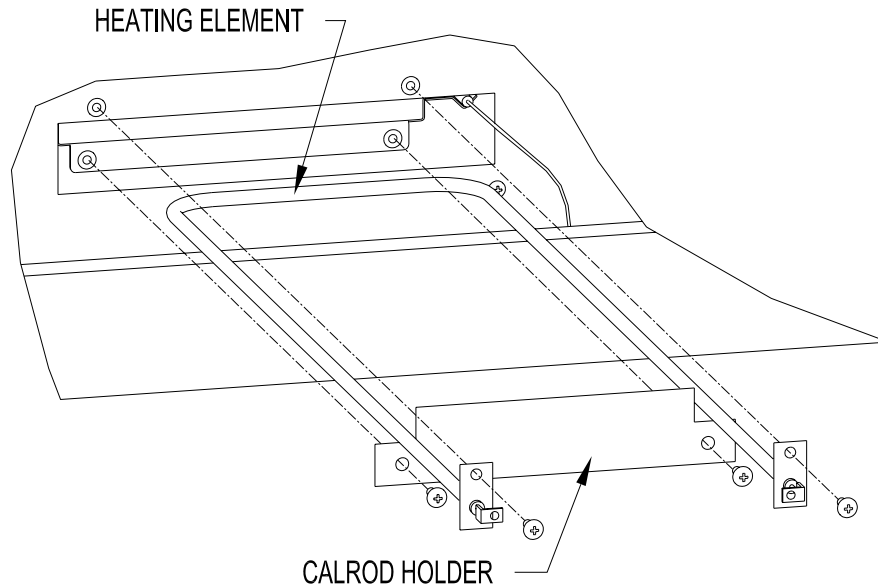

Figure 13. Well Heating Elements
2. Disconnect the (2) wires attached to the heating element. Retain the wire terminal mounting screws.
3. Remove the (2) screws retaining the heating element and pull the heating element 4" to 6" out of case. Refer to Figure 13.